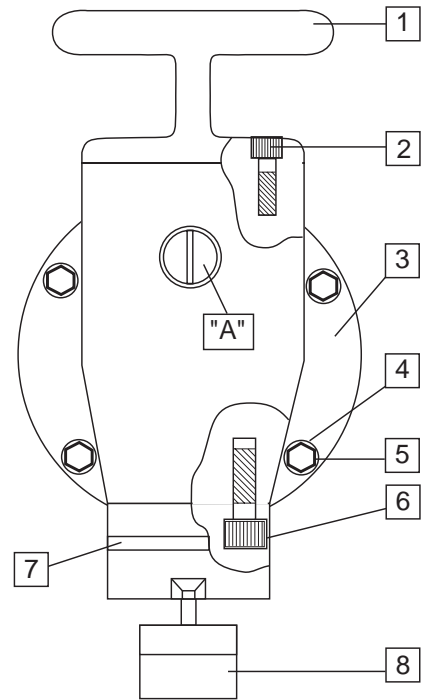

Figure 1
To remove the punch, turn the eccentric shaft (18) by inserting a screwdriver in slot "A" at the front of the nibbler. (See Fig.1). Turn clockwise until plunger (14) is at the bottom of stroke. Slot "A" should be in a vertical position. Remove the two die screws (2) and lock washers (9). Remove die (10). Remove the two stripper screws (13). Remove stripper (12). Remove punch (11) from "T" slot in plunger (14). If necessary, drive the punch out of "T" slot by inserting a 1/8" diameter drive pin punch in hole "B" at the rear of nose piece die holder (8).